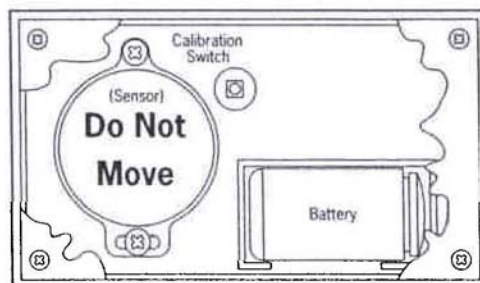

Figure 1
3. Press calibration switch using a small blunt object, e.g. ball point pen. See Figure 1 for location of switch. Note: This switch toggles in and out of the calibration mode.